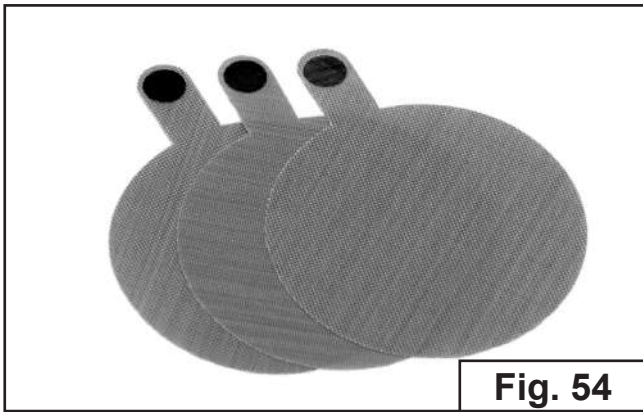

Fig. 54
1. Take the swab from the package (Fig. 54). Use tweezers (supplied) for better accuracy.